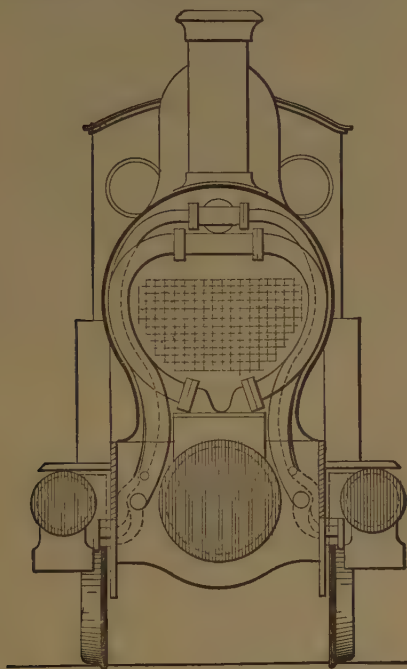

Fig. 52. Arrangement of Cylinders, Webb Compound Locomotive.
Q. Where there are three cylinders, as for instance in a compound locomotive where there is one cylinder between the frames and two outside, as shown in figure 52, how are the cranks arranged ?